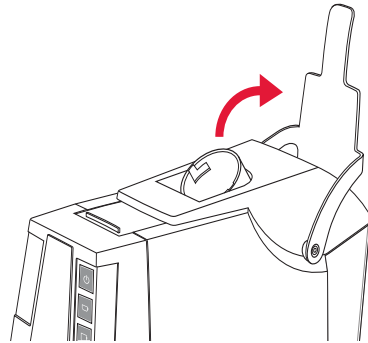

Figure 3
4. Open the handle. See figure 3.